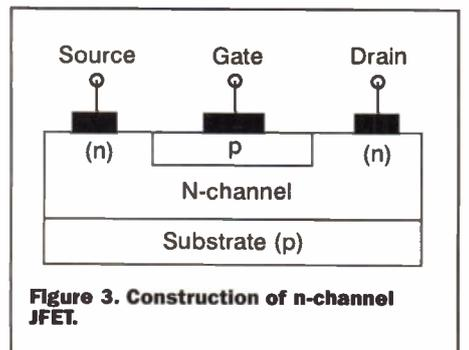
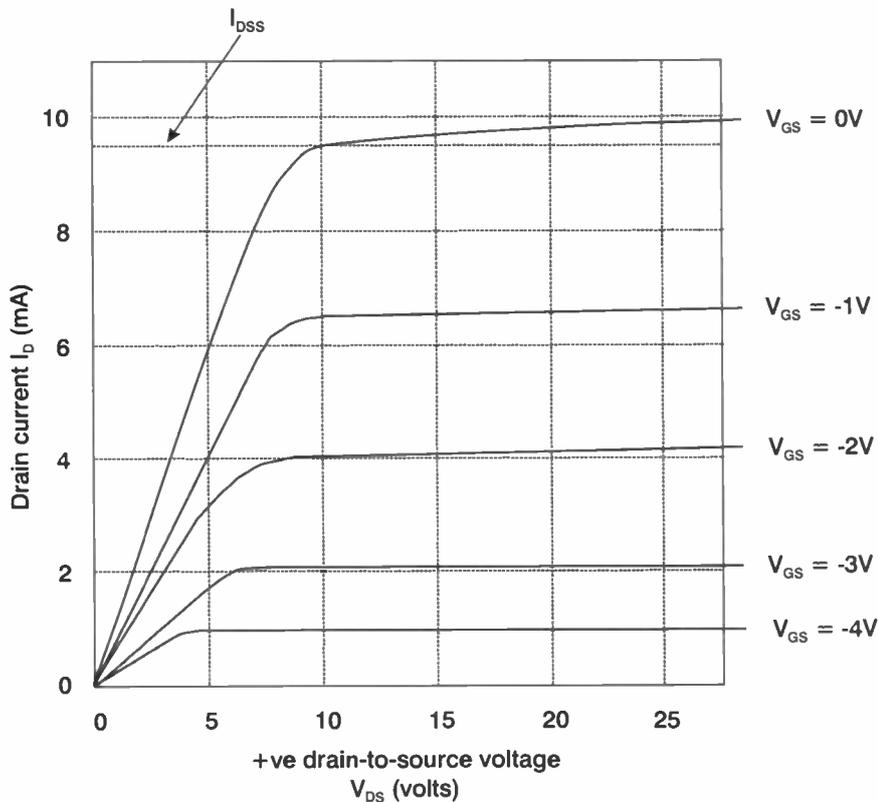
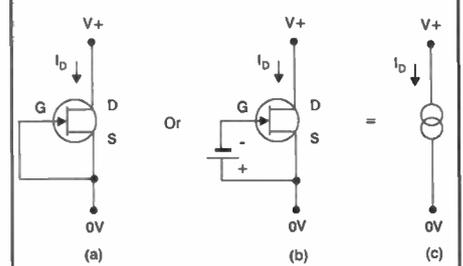

Figure 3. Construction of n-channel JFET.
Figure 4. Idealsed transfer characteristics of n-channel JFET.
Figure 8. An n-channel JFET can be used as a constant-current generator.
Figure 3 shows the basic form of construction of a practical n-channel JFET; a p-channel JFET can be made by transposing the p and n materials. All JFETs operate in the depletion mode, as already described. Figure 4 shows the typical transfer characteristics of a low-power n-channel JFET, and illustrates some important features of this type of device. The most important characteristics of the JFET are as follows.
(4). Note in Figure 4 that, for each V_{GS} value, drain current I_D rises linearly from zero as the drain-to-source voltage (V_{DS}) is
Also note in Figure 4 that when V_{DS} is above the knee value the I_D value is controlled by the V_{GS} value and is almost independent of V_{DS} , i.e., the JFET acts as a voltage-controlled current generator. The JFET can be used as a fixed-value current generator by either tying the gate to the source, as in Figure 8(a), or by applying a fixed negative bias to the gate, as in Figure 8(b). Alternatively, it can (when suitably biased) be used as a voltage-to-current signal amplifier.